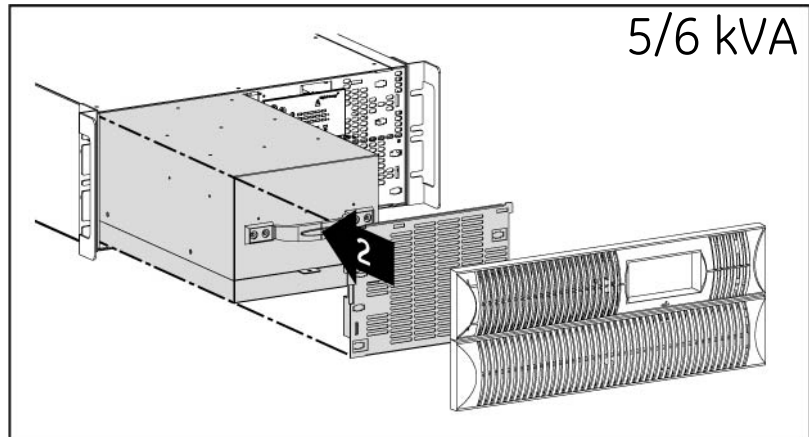

fig. 3.3.3.a
4. Fix the battery cover by tightening screws (4, fig. 3.3.3.b).